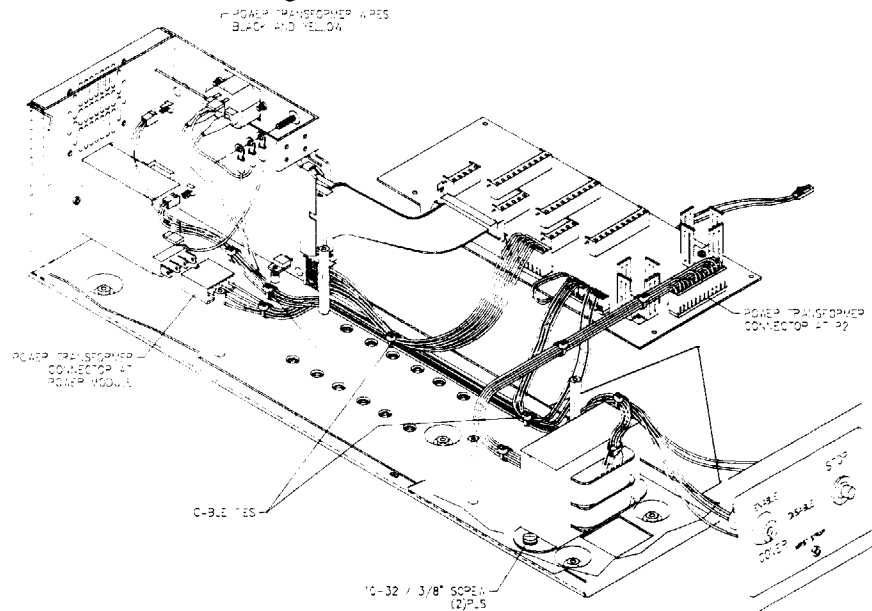

Figure 3-28. Power Transformer Replacement.
Refer to figure 3-28 for the following:
3. Unplug the PCA from the Stepper Motor Drivers and set it next to the Power Chassis as in figure 3-28.
3. Unplug the PCA and set it next to the Power Chassis as in figure 3-28.